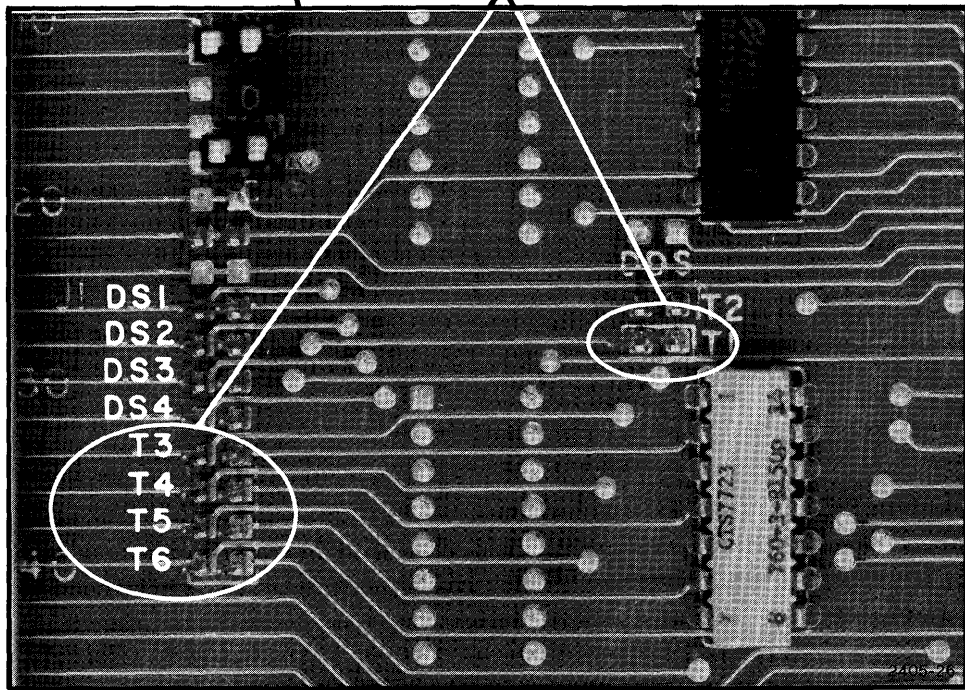
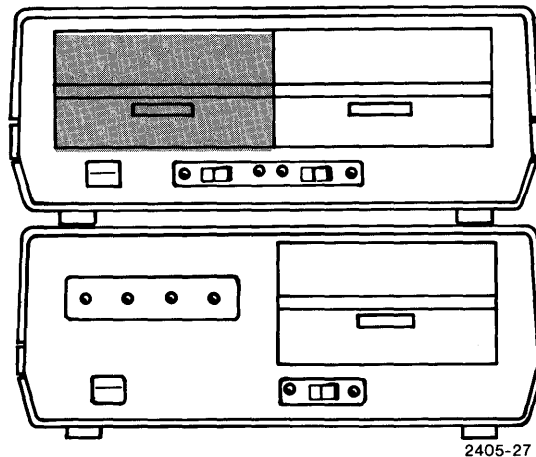

Figure 4-4. Drive Address Strap Location.
Figure 4-5. Drive Unit With Terminators (Indicated by Shading).
2. Locate the jumper straps labeled DS1 (Drive Select 1), DS2, DS3, DS4, (see Figure 4-4). The strap that is jumpered is the device address plus one. As illustrated, a jumper on DS1 gives that drive a device address of 0.
4. Notice the resistor termination straps T1 and T2, and T3 through T6. See Figure 4-4. T2 is always strapped. T1 and T3 through T6 are strapped only for the device the farthest cable distance away from the Main Cabinet Connector J1. In an Option 31, the farthest device is the top left drive unit (indicated by shading in Figure 4-5).